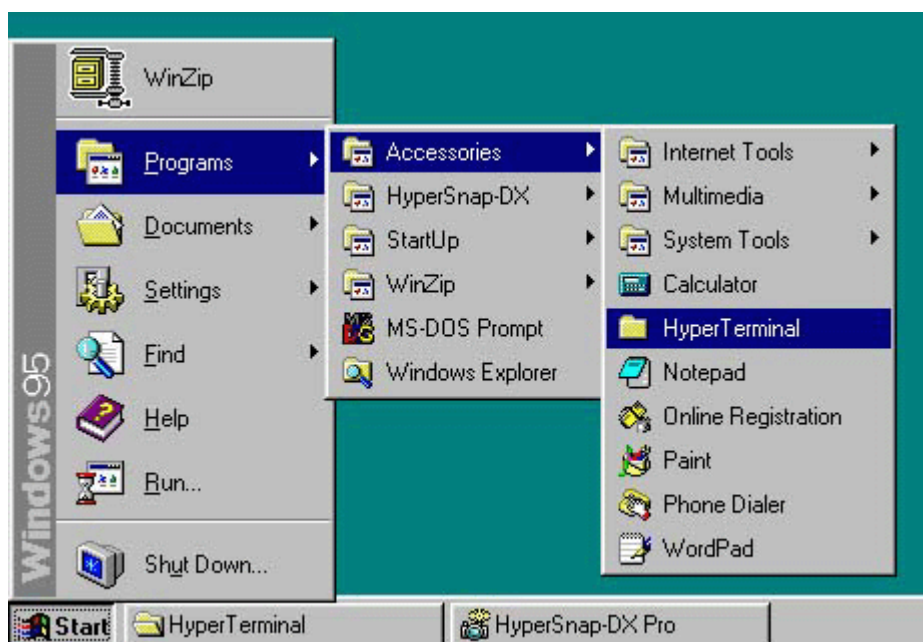

Fig. 1
2. Go to "HyperTerminal" from the "Start" button by clicking as shown in Fig.1.